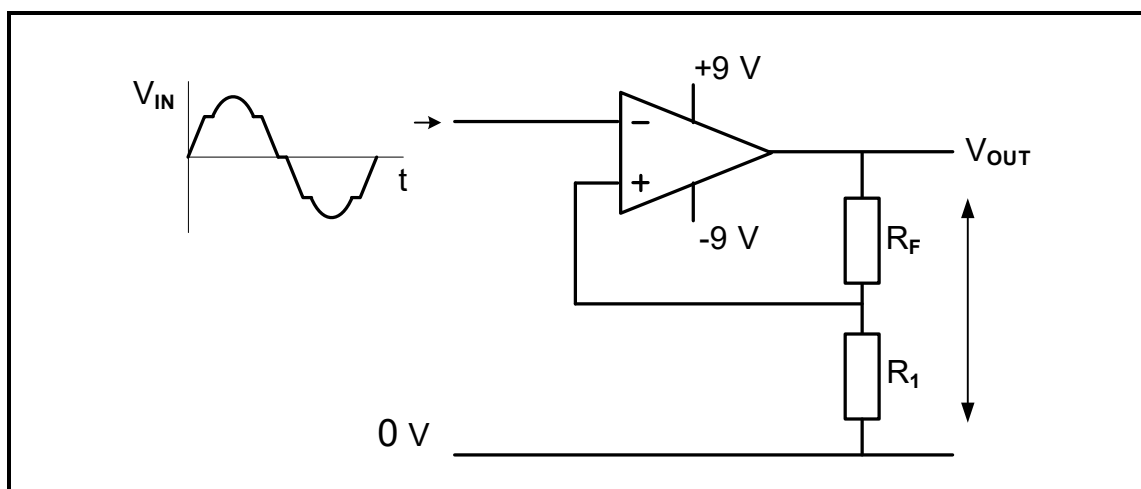

FIGURE 3.5: INVERTING SCHMITT TRIGGER
- 3.5 FIGURE 3.5 below shows the basic circuit diagram of a Schmitt trigger. Answer the questions that follow.
- 3.5.2 Draw the output signal for the circuit in FIGURE 3.5 above on the ANSWER SHEET for QUESTION 3.5.2. (4)